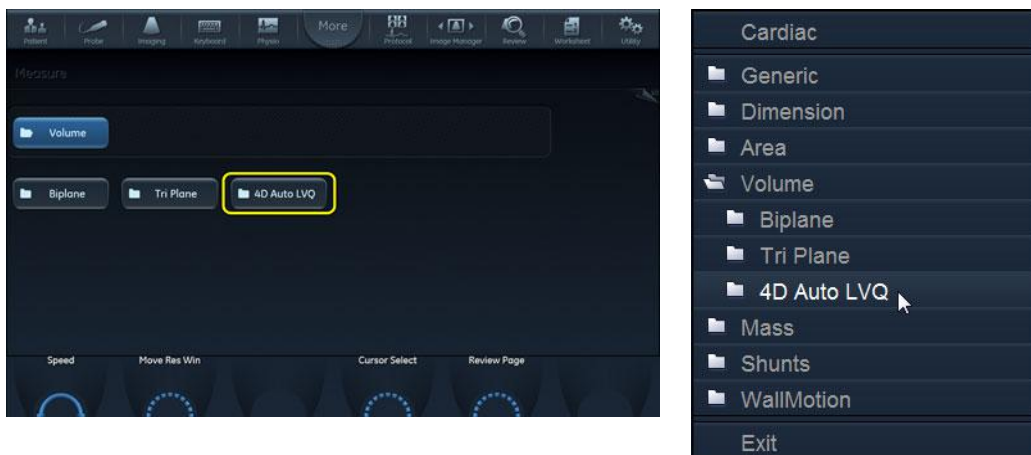

Figure 8-42. 4D Auto LVQ measurement selection
3. Select **Volume/4D Auto LVQ** (Figure 8-42).